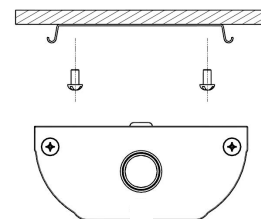

Fig.4 SURFACE MOUNTING
4. Snap **Housing** on **Snap On Brackets** as shown in **Fig. 4.**